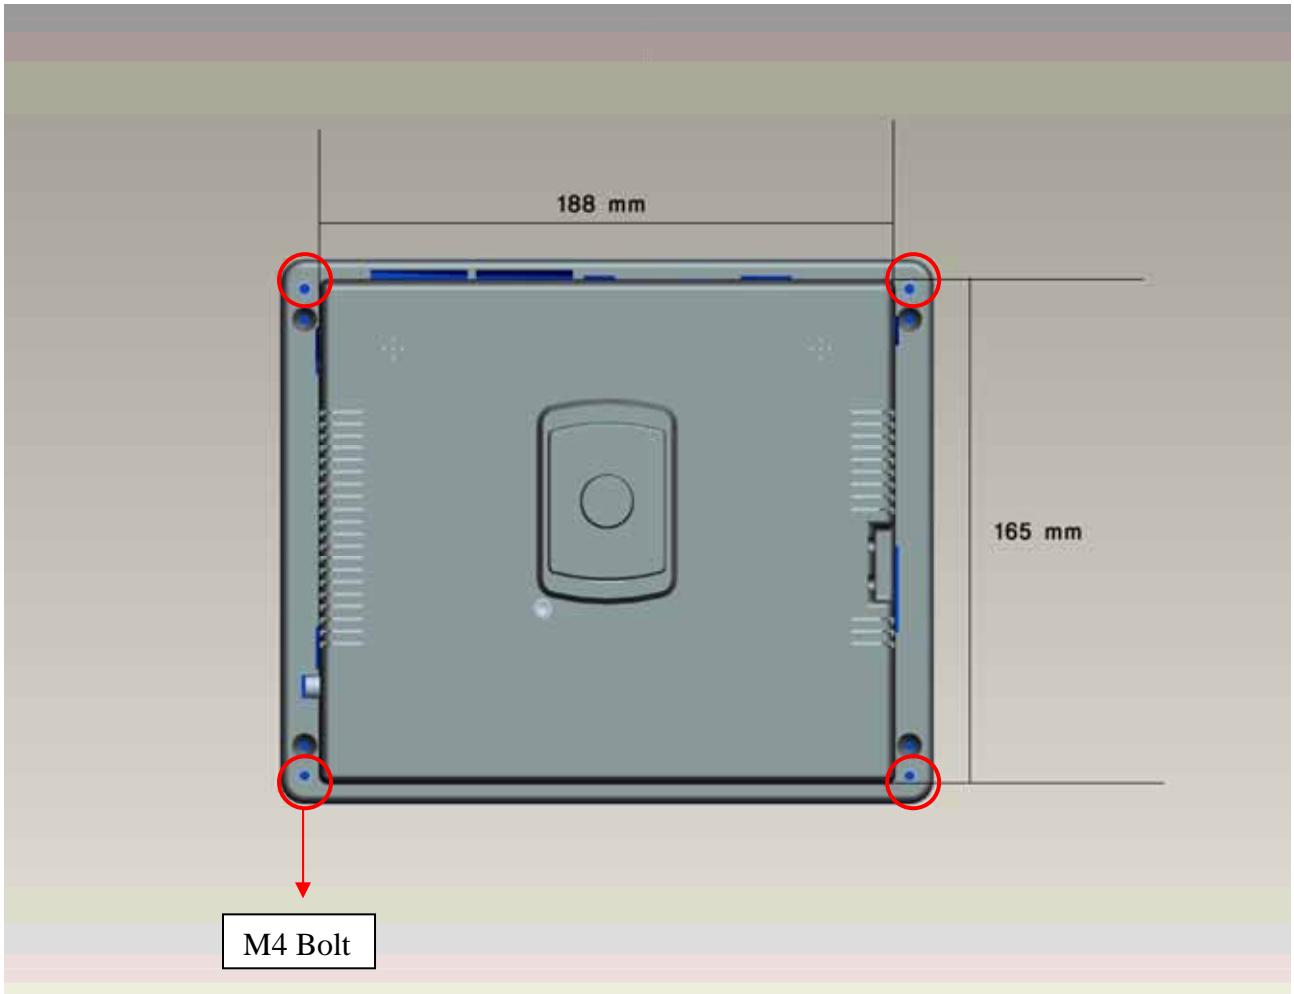

Fig. 1
There are must be used bolt M4 for Reader mounting. Mounting Bolts placement and dimension depicted on Figure 1.
There are must be made four holes for Antenna mounting, as it depicted on Figure 1.
- RFID Smart Device Uways (Reader) to PC according to Fig. 1 in section 6 of this manual;